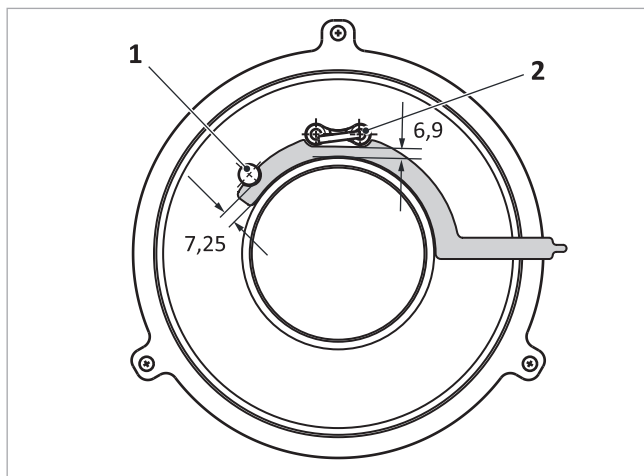

Fig. 143: Clearance from ionisation electrode and ignition electrode to burner tile
- Ionisation electrode → fig. 143 (1): 7.25 mm
- Ignition electrode → fig. 143 (2): 6.9 mm